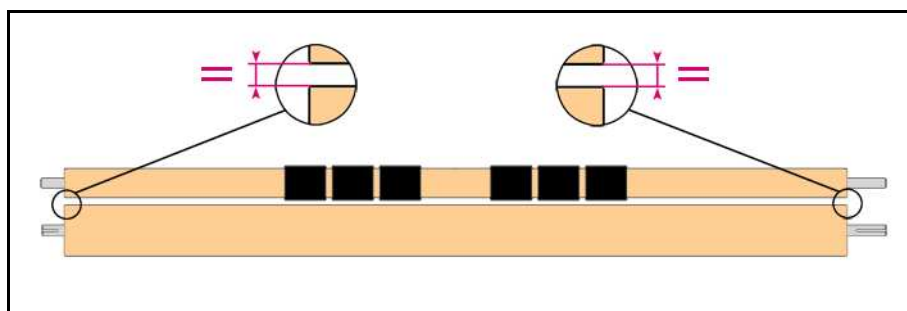

fig 13
- d. The middle pressure point (fig1, detail A, no13) (when delivered) is already adjusted in the factory but can be adjusted if necessary. When adjusting or re-adjusting this device, always be sure that the pressure on the pressure roller is even on both ends and the position is, as described in fig13.